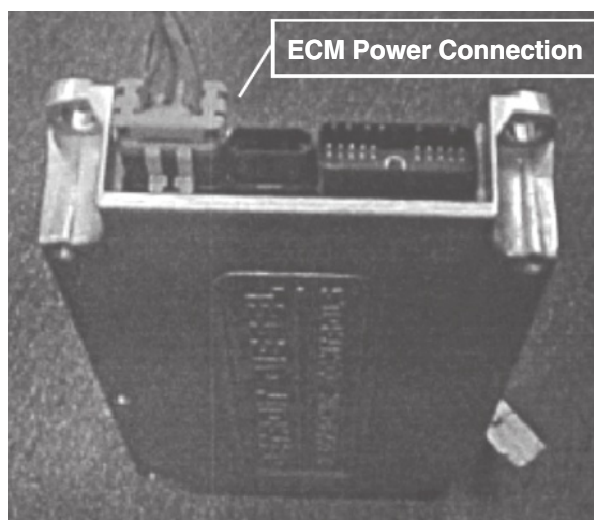

Figure 6.48 *ECM Power Connector Top View.*
19. To program the Sender ECM in Manual mode, disconnect the power connection (*See Figure 6.48*) from the Receiver 1 ECM and Receiver 2 ECM if equipped. Follow the programming steps 11 through 13.